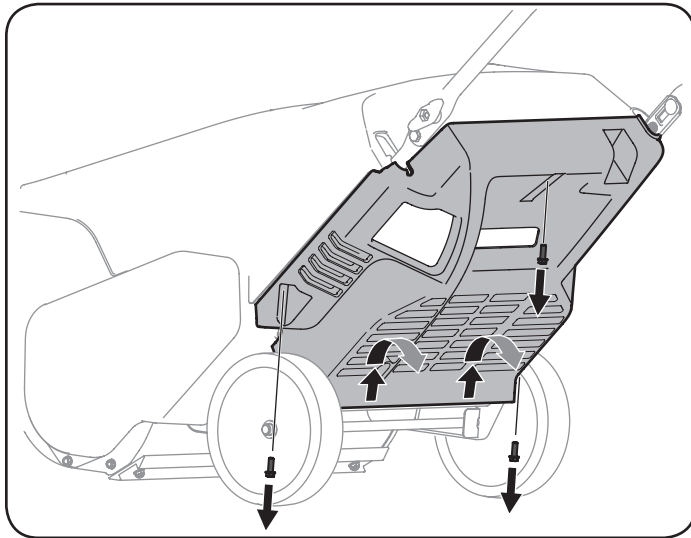

Figure 7
2. Remove the three screws that secure the lower panel. Remove the lower panel by lifting up on the panel to free the tabs at the bottom of the panel from the tab slots and then pull back. See Figure 7.